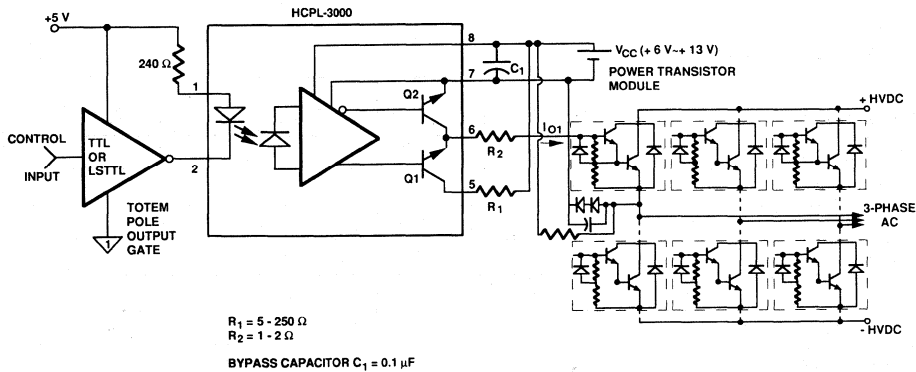

Figure 1. Recommended Output Transistor Protection and Typical Application Circuit.
duct large amounts of current. Figure 1 describes a recommended circuit design showing current limiting resistors R1 and R2 which are necessary in order to prevent damage to the
- R1 sets the base current (I_{O1} in Figure 1) supplied to the power bipolar device. R2 limits the peak current seen by Q2 when the device is turning off. For more applications and circuit design information see Application Note "Power Transistor Gate/Base Drive Optocouplers."